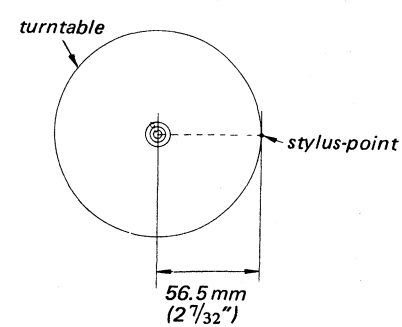

Fig. 3-5
4. Set the position of the stylus as shown in Fig. 3-5 and turn the adjustment screw so that the VOM reads 4.4 V dc.